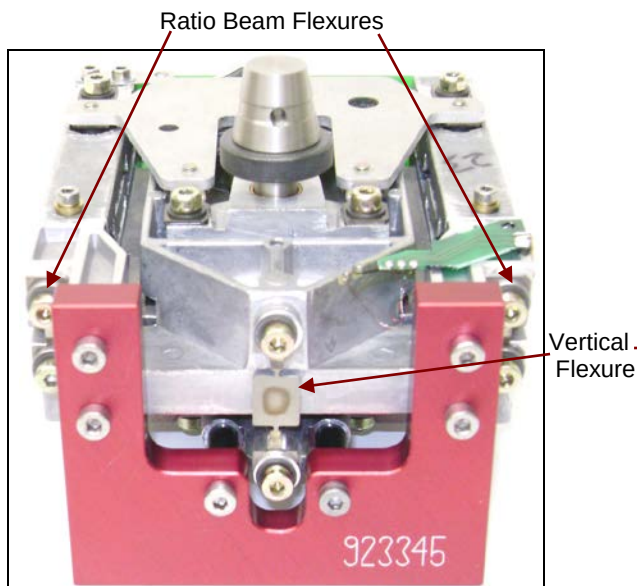

Figure 3-45. Mounting Adventurer 3 Decimal Service Fixture.
1. Install the Service Fixture on the front of the Load Cell, using the six screws supplied with the Fixture – *tighten screws finger-tight until completing next step.* (See Figures 3-45 and 3-46.)